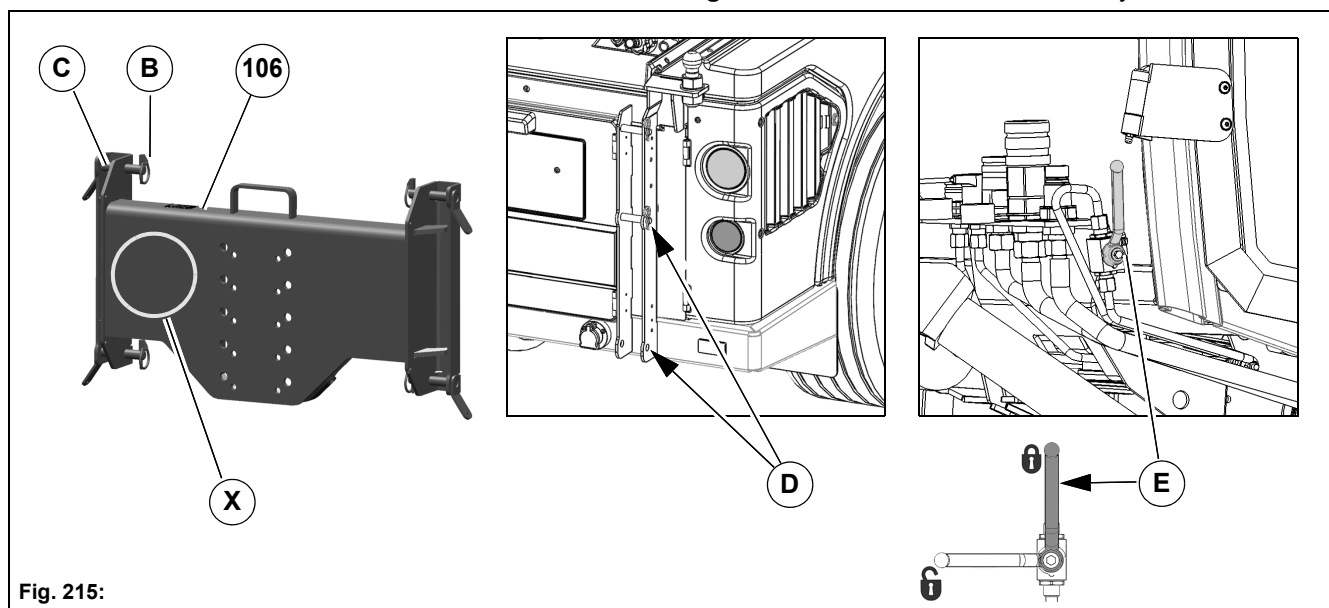

Fig. 215:
1. Remove the locking pins **Fig. 215-B** of the four bolts **Fig. 215-C** of the trailer hitch plate and withdraw the bolts.
3. Secure the trailer hitch plate with bolts and locking pins to the holding points **Fig. 215-D** of the vehicle tail.
5. Affix the Speed label at position **Fig. 215-X**.
6. Close the valve **Fig. 215-E** for the suction mouth lift system!